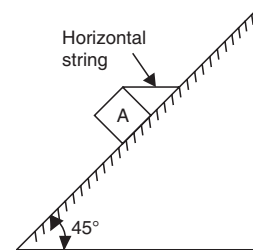

Fig. 6.17
**Example 6.6.** A rectangular prism block weighing 150 N is resting on a rough inclined plane as shown in Fig. 6.17. The block is tied up by a horizontal string, which has a tension of 50 N. Find